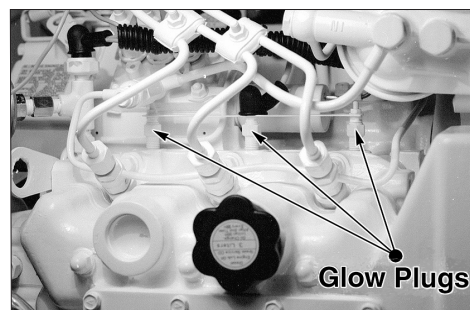

Figure 17: Glow plugs
- f. After removing the injectors, discard the copper sealing washers from the injector hole in the head (Figure 17). Cover holes to prevent dirt and debris from entering the cylinders.
- a. Install a new copper sealing washer in each injector hole (Figure 17).